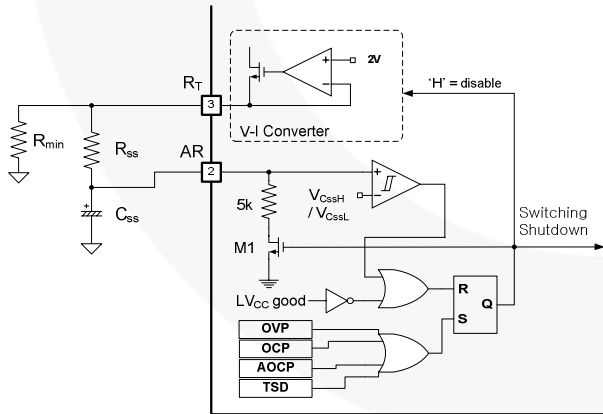
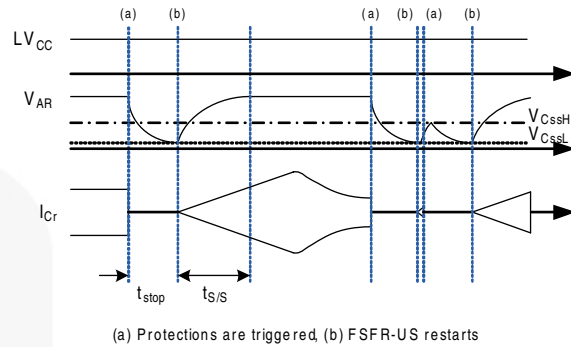

Figure 20. Internal Block of AR Pin
Figure 21. Self Auto-Restart Operation
4. Self Auto-Restart: The FSFR-US series can restart automatically even though any built-in protections are triggered with external supply voltage. As can be seen in Figure 20 and Figure 21, once any protections are triggered, M1 switch turns on and V-I converter is disabled. C_{SS} starts to be discharged until $V_{C_{SS}}$ across C_{SS} drops to $V_{C_{SSL}}$. Then, all protections are reset, M1 turns off, and V-I converter resumes at the same time. The FSFR-US starts switching again with soft-start. If the protections occur while $V_{C_{SS}}$ is under $V_{C_{SSL}}$ and $V_{C_{SSH}}$ level, the switching is terminated immediately, $V_{C_{SS}}$ continues to increase until reaching $V_{C_{SSH}}$, then C_{SS} is discharged by M1.